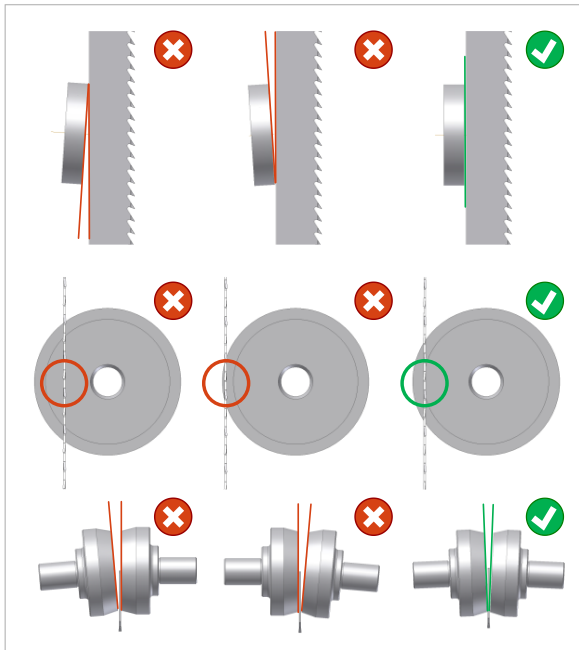

Figure 23: Basic adjustment of the back and side rollers
- Adjust the side rollers so that they only lightly touch the saw blade (see ⇒ Figure 23). Please take care that the saw blade is not pushed to the side!
- After adjustment, tighten the two lock nuts (M) and the tommy screws (K1) and (K2).